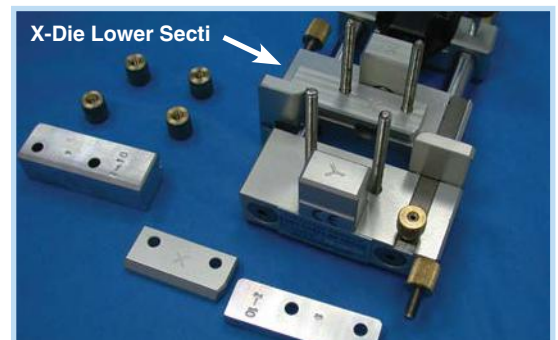

Fig. 7
1. Set the V-Profile Adapter Lower Section in place (Fig. 7) on the Movable (X) base.